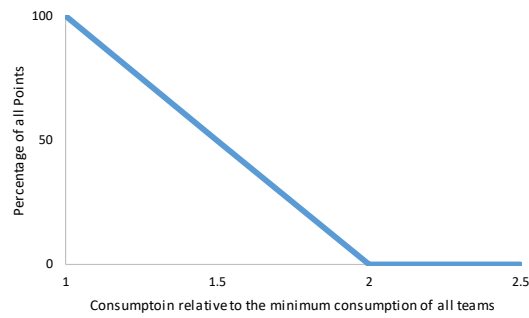

Figure 3. Load consumption per surface area sub-contest points' distribution
- b) Reduced points are earned if the calculated house consumption is between the lowest consumption and 2.0 times the lowest consumption. Reduced point values are scaled linearly, as shown in Figure 3.